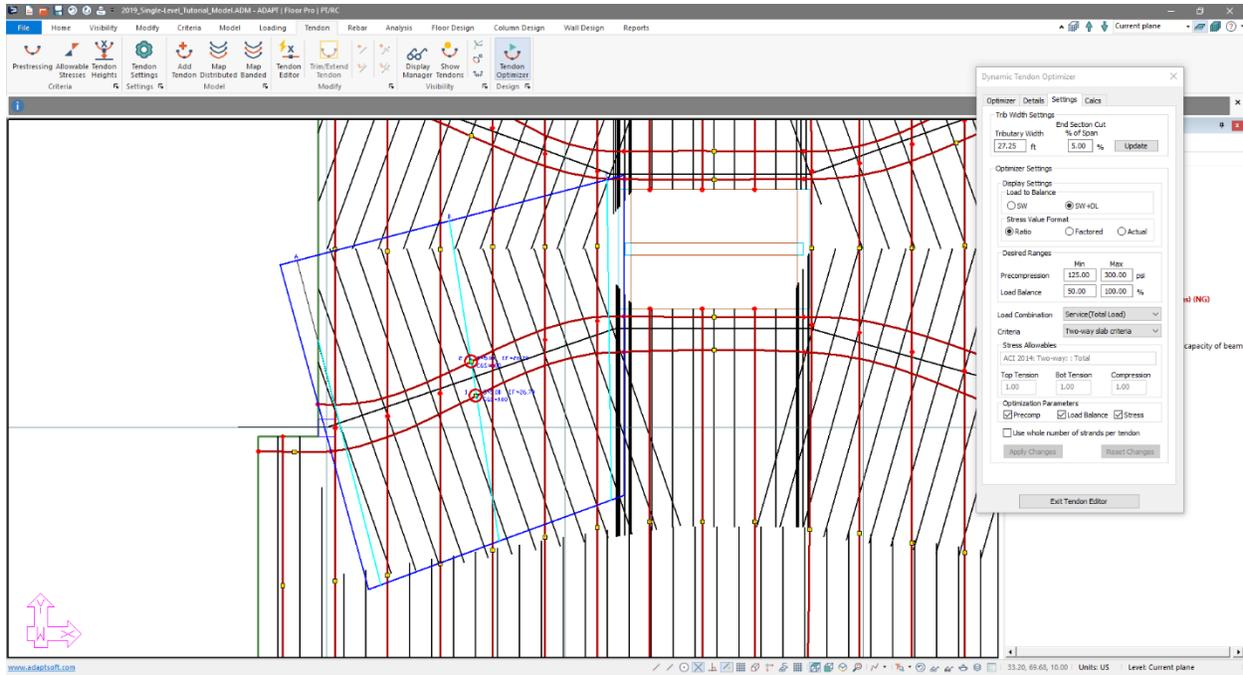

Figure 8-61
- Click on the *Update* button in the *Trib Width Settings* section. The tributary and the sections will update as shown in **FIGURE 8-61**.